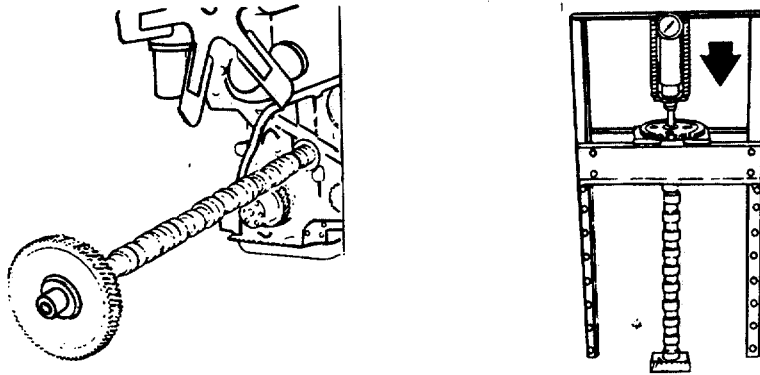

FIGURE 4-27. *Removing Camshaft Gear.*
- (1) Install the camshaft and gear assembly in a hydraulic press. Place V-blocks under the gear. Make sure the V-blocks support the hub area of the gear (FIGURE 4-27) .